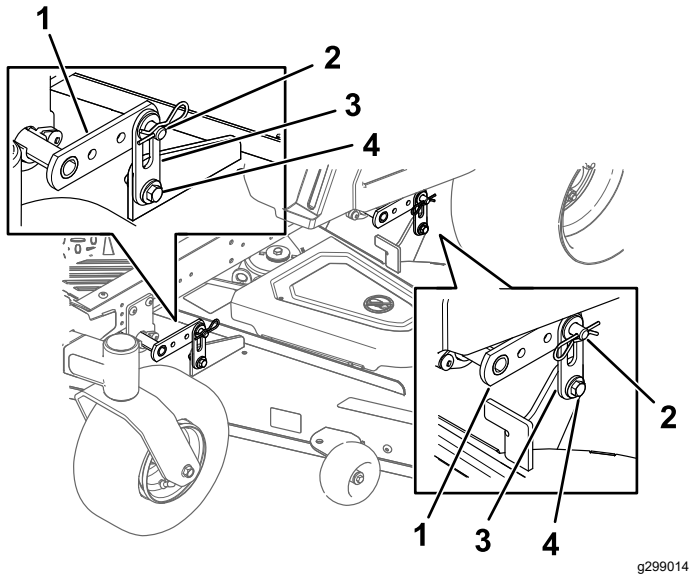

Figure 62
- Loosen the adjustment bolts on all 4 corners so that the deck is sitting securely on all 4 blocks (Figure 62).
- Ensure that the deck pins are at the top of the slot in the deck hangers (Figure 62).
- Tighten the 4 adjustment bolts (Figure 62).